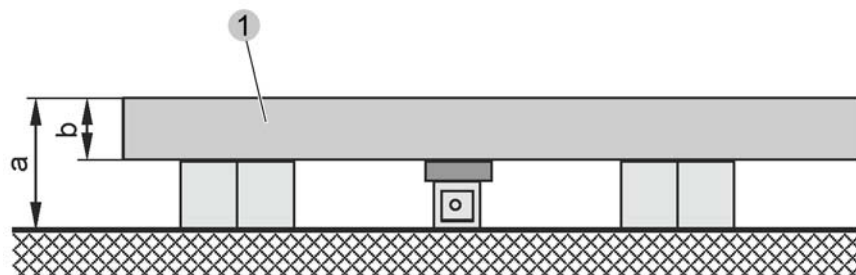

Fig. 10 Arrangement for determining the machine feet heights
1) Perpendicular to measuring points MP0 to MP5 measured without a load 2) → Fig. 10 3) at the positions P1, P2, P3, P5